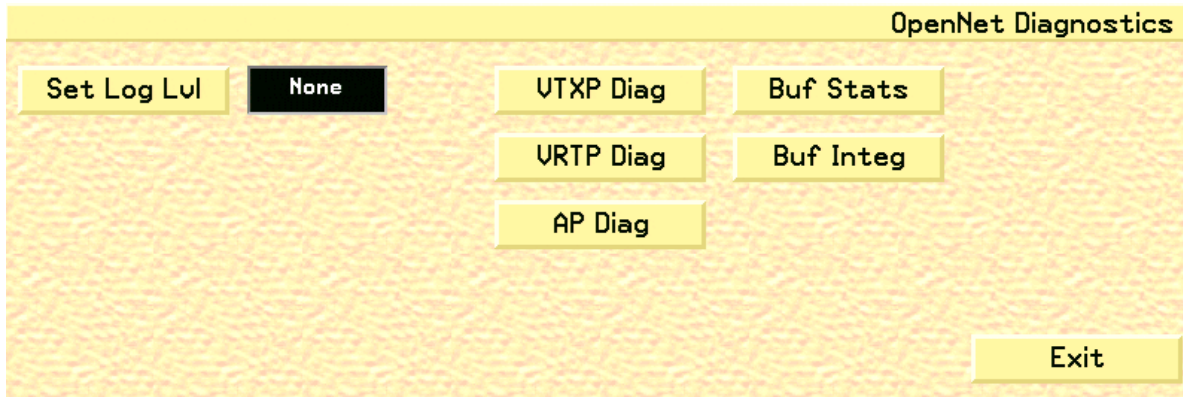

Fig. 70. OpenNet Diagnostics Screen
1. Click the **Diagnostics** button on the OpenNet LAN screen to open the OpenNet Diagnostics screen (fig. 70).